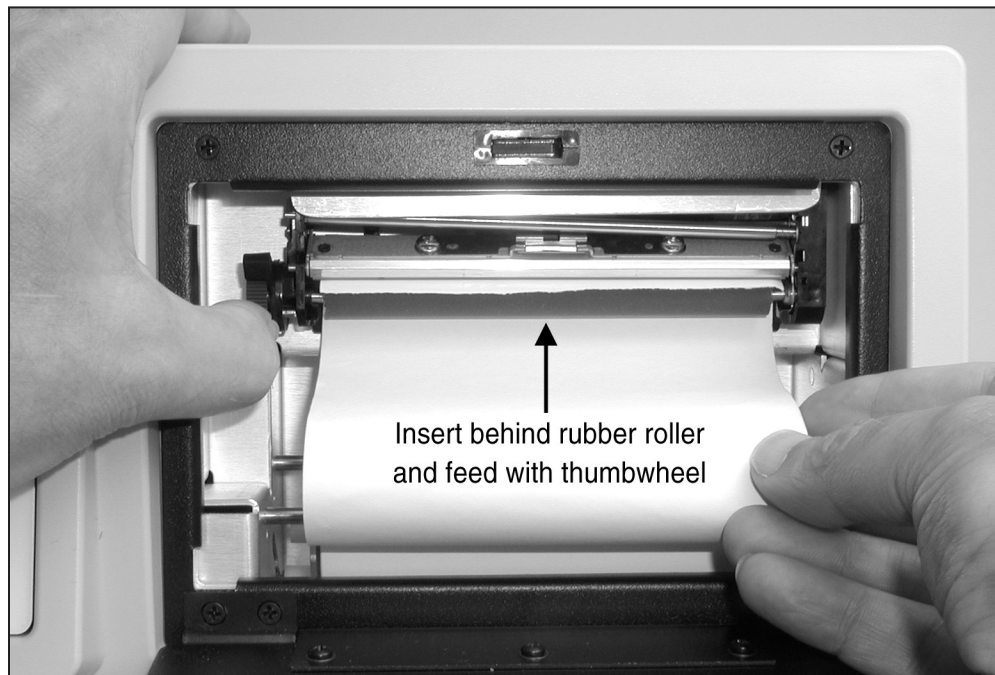

Figure 2.4.2C—Loading paper into the printer
3. Unroll approximately six inches of paper from the roll, and insert the paper's leading edge into the bottom of the printer mechanism, directly beneath the rubber roller so the paper moves up behind the roller. See Fig. 2.4.2C.